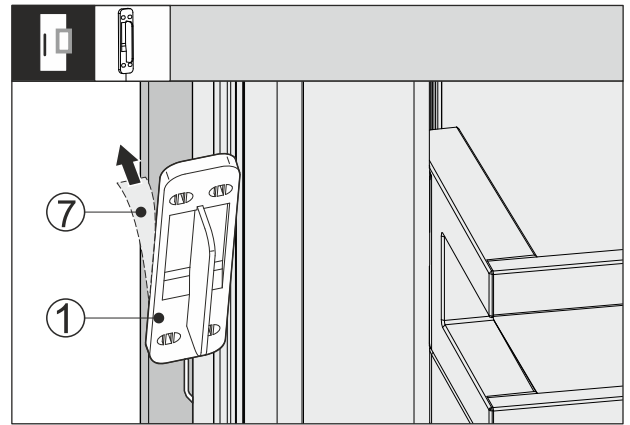

Fig. 64
- ▶ Remove the protective film Fig. 64 (7) on the back of the knocking sensor Fig. 64 (1).